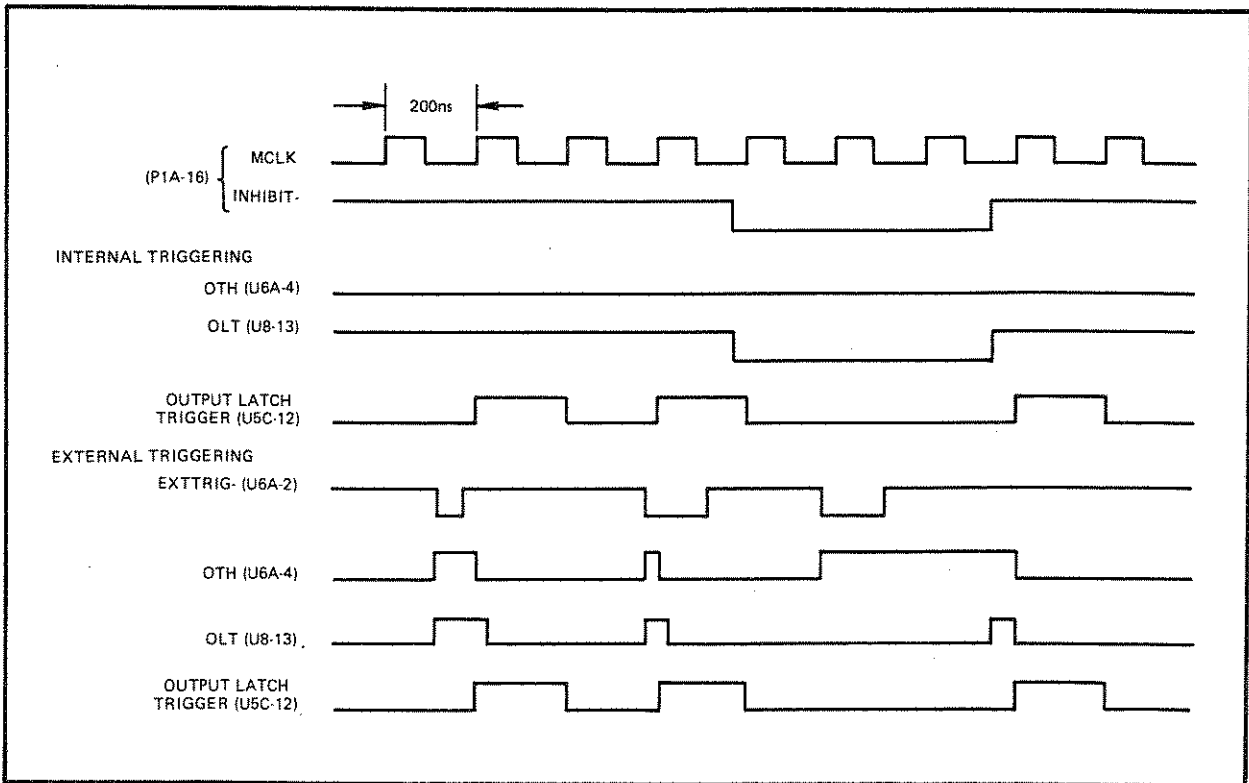

Figure 4.13. Output Latch Internal and External Triggering
Two types of triggering, internal and external, are available as selected by the position of jumper P4. For internal triggering, the jumper is installed forcing pin 3 of flipflop U6A "low". The output at pin 4 (Q) drives the OUT TRIG HOLD of U8 (pin 16). When this line are active, the OUT LATCH TOGGLE (pin 13) sets, forcing the input of U5C (J) "high". This condition means the output toggles with the clock as shown in the timing diagram of Figure 4.13. Under these conditions, the output data are latched every 400 nanoseconds producing up-to-date data. If the INHIBIT line (pin 14) of U8 is pulled logic "low", the OUTPUT LATCH TOGGLE signal goes "low", and the output latches stop changing and remain in this present state. At this time, the output data are valid and will not change until the inhibit line goes high.